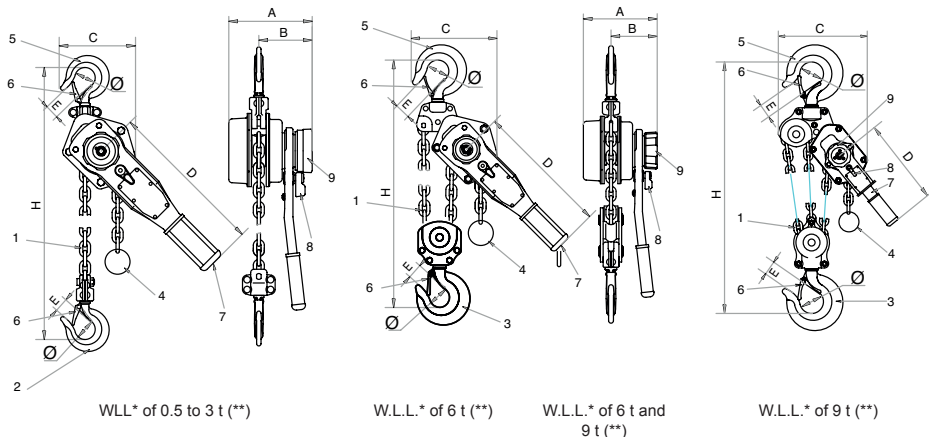

Fig. 1
The bravo™ hoist is supplied with a standard 1.50 m length of load chain (item 1, fig. 1). The load chain used with the 0.5 t to 3 t models is formed by a single strand with a lifting hook (item 2, fig. 1) at its end. The lifting chain (item. 1 fig. 1) of the 6 t model is made up of two strands and a sheaved lifting hook (item 3, fig. 1). The lifting chain (rep. 1 fig. 1) of the 9 t model, is made up of three strands and a sheaved lifting hook (item. 3, fig. 1).
The free end of the chain is equipped with a low limit stop (item 4, fig. 1).
1. Check that the bravo™ hoist is properly suspended by its suspension hook (item 5, fig. 1) and that the hook safety catch (item 6, fig. 1) is properly closed (see figs. 2 and 3).
The bravo™ hoist is operated by means of an actuating handle (item 7, fig. 1) which is moved back and forth by the operator to lift or lower a load, pull a load, or apply tensioning.